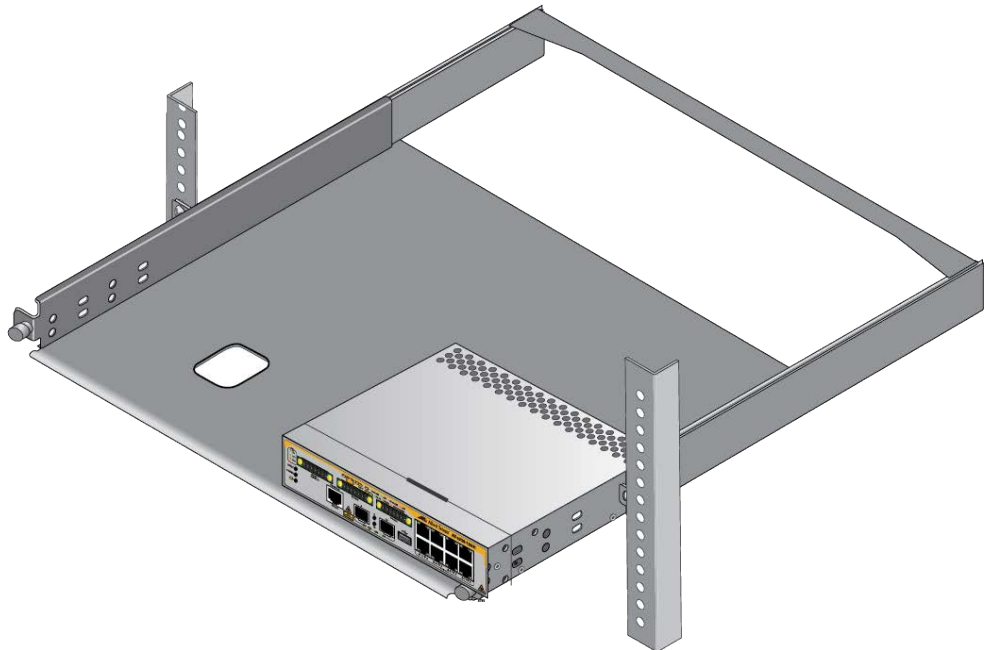

Figure 37. Placing a Device in the RKMT-J15 Bracket
4. Place the device in the left or right side of the bracket, with its front panel facing the front of the bracket. If you are installing only one device, you may install it on either the left or right side. Refer to Figure 37.